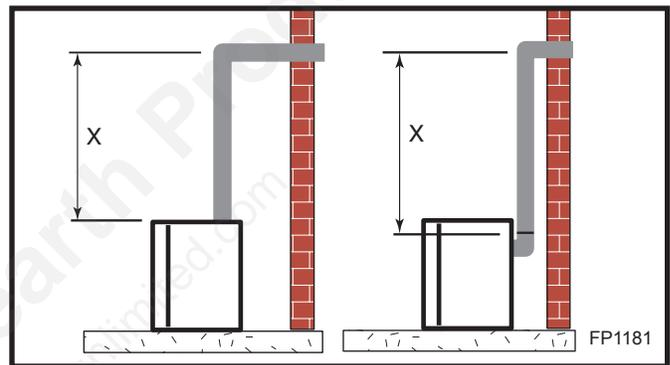

Fig. 34 Vertical height requirements.
Place fireplace into position. Measure the vertical height (X) required from the base of the flue collars to the center of the wall opening. (Fig. 34)